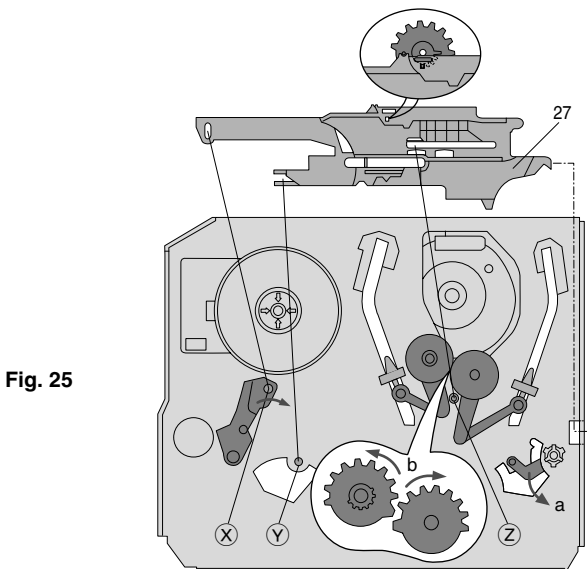

Fig. 25
- Move the levers and gearwheels to their stop positions as shown by the arrows in Fig. 25.
- Put the slider (Pos. 27) on to the shafts X Y Z as shown in Fig. 25.